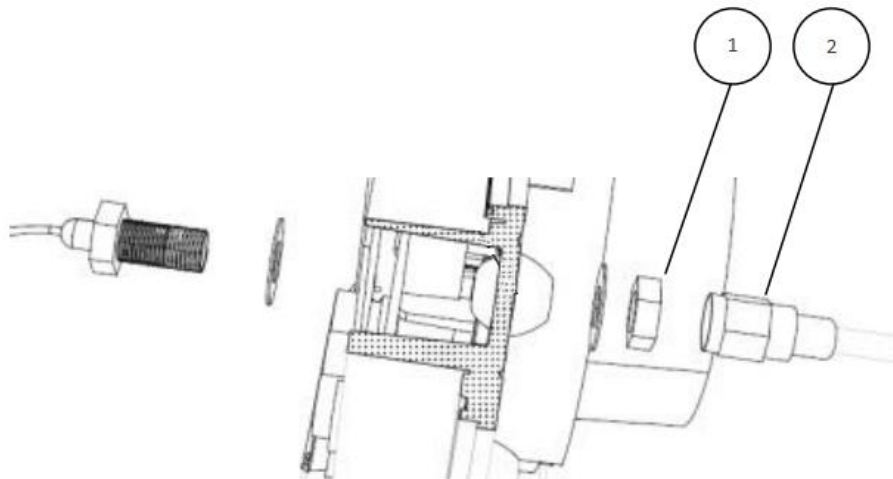

Figure 4: Connecting the antenna
Connect the SMA connector according to Figure 4. Make sure to tighten the nut (1) properly before the SMA connector (2) is attached.